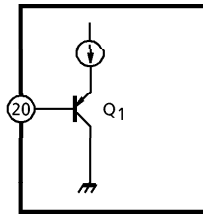

Fig.1
(1) Threshold voltage
Pin⑳ is coupled to the base of Q1 (PNP-Tr) as shown in Fig.1.